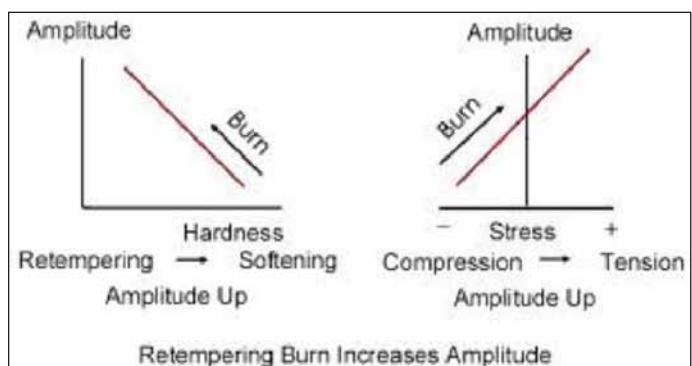

Figure 28—Grinding damage: re-tempering grinding burn.
**Grinding damages.** As far as case carburized gears are concerned, the grinding process may involve local overheating leading to heavy damages called grinding burns. In case carburized pinions, structure is typically made of martensite and bainite. The main structure of the carburized layer is martensite, and is very sensitive to quick heating and cooling. With such a phenomenon generated by the grinding wheel, it may appear cracked should the grinding wheel be worn or should a lack of lubrication arise (Fig. 28).